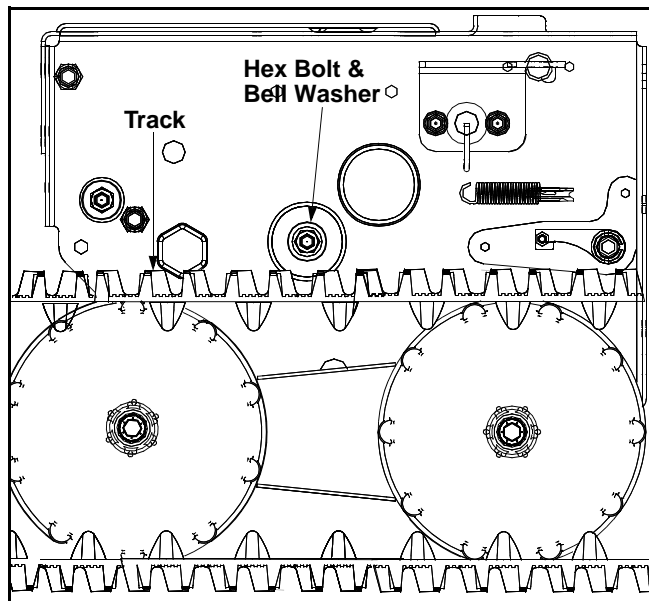

Figure 20
- Using a 7/8" wrench to hold the shaft, loosen, but do not completely remove, the hex bolt and bell washer on the left end of gear shaft. See Figure 20.